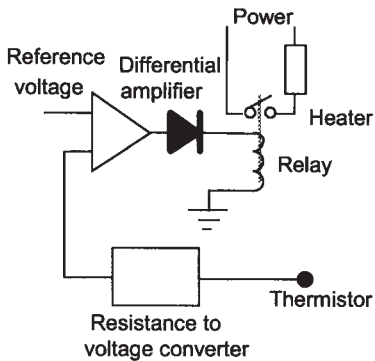
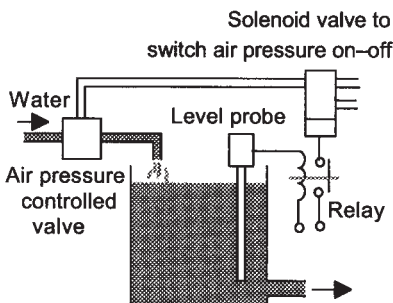

Figure 11.25 Problem 4
Figure 11.26 Problem 4
- 4 Figure 11.25 shows a temperature control system and Figure 11.26 a water level control system. Identify the basic functional elements of the systems.